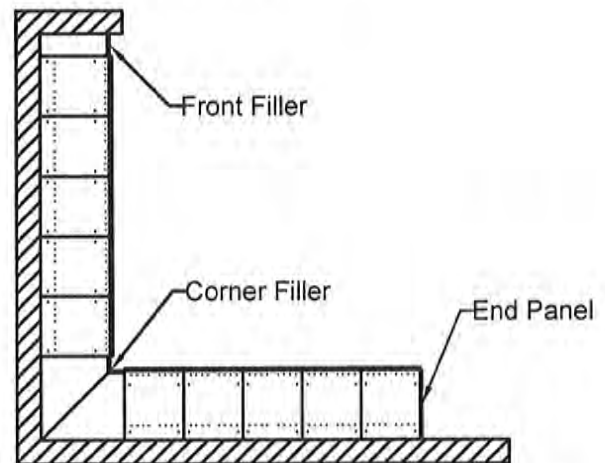

Figure 6.4 Locker Installation Layout
- 6.10 Install the adjustable legs on each locker and finish installing the rows of lockers, see Figure 6.4.